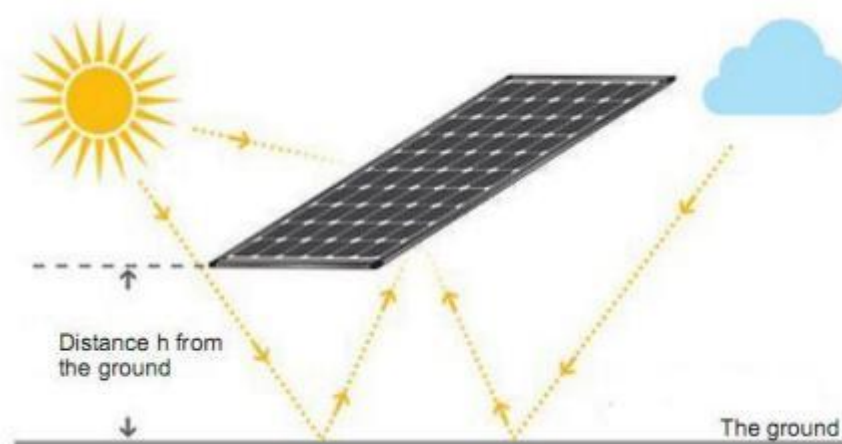

Fig. 7-2 Distance from the earth
- ☞ Due to the different ground clearance height will affect the power generation gain, it is recommended to install the module at a height from 0.5m to 2m. See Fig. 7-2.